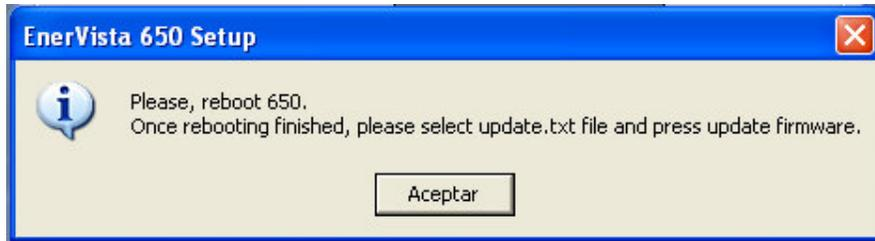

FIGURE 9-26: RELAY REBOOT STEP
9.3.2.5 Once the upgrade parameters have been entered, press the **Upgrade Firmware** button. When communication has been established, the program will show a message requesting to turn OFF and back ON the relay to continue with the upgrade process (Figure 9-26).